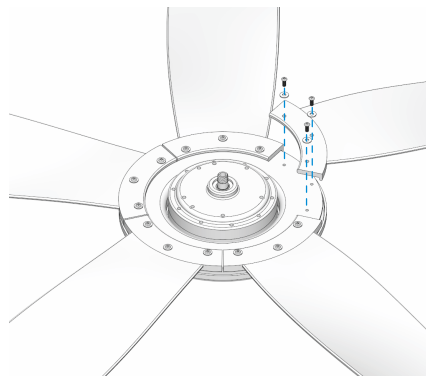

Fig. 1.2
1.2 Align the three blade holes with the corresponding screw holes on the motor, and secure the blades using the blade screws and washers, as illustrated in Fig. 1.2.